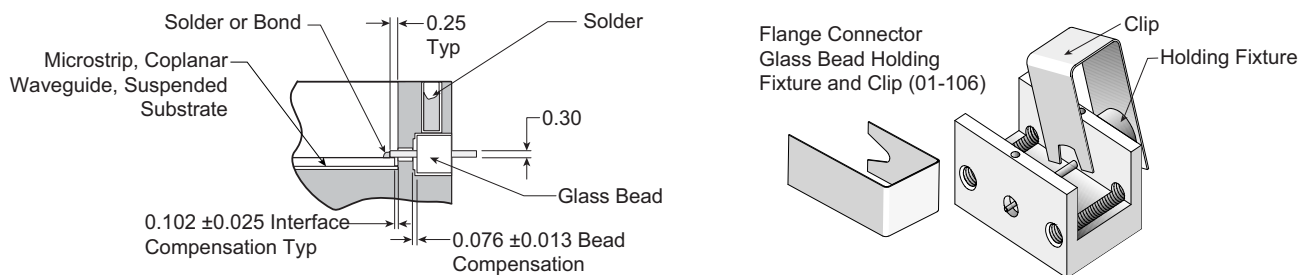

Figure 9-3. K104M-R Glass Bead Assembly
1. Install the microstrip into the housing (see Figure 9-3 for dimensional tolerances around the glass bead).
3. Flux the glass bead and insert it, long-end first, into the 01-106 Glass Bead Holding Fixture (Figure 9-3).
5. Secure the holding fixture in place by using the spring clip furnished with the fixture (Figure 9-3). Position the spring clip so as not to obstruct the solder access hole in the housing. Ensure that the glass bead is centered and that it is making good contact with the microstrip.